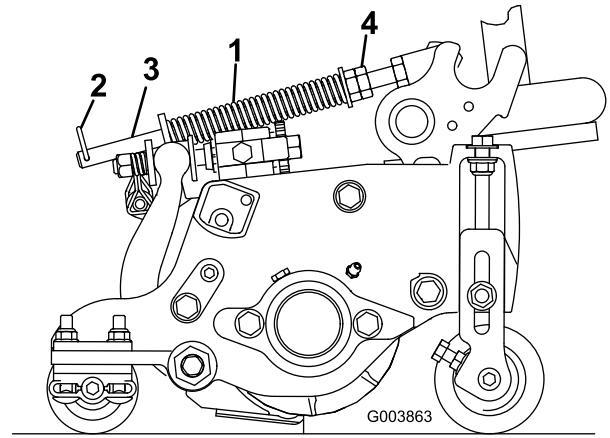

Figure 13
2. Tighten the hex nuts on the front end of the spring rod until the compressed length of the spring is 5 inches (12.7 cm) on Reelmaster 5210 & 5410, 5 inch cutting units or 6.25 inches (15.9 cm) on Reelmaster 5510 & 5610, 7 inch cutting units (Figure 13).
The turf compensation spring (Figure 13) transfers weight from the front to the rear roller. (This helps to reduce a wave pattern in the turf, also known as marcelling or bobbing.)
1. Make sure the hairpin cotter is installed in the rear hole in the spring rod (Figure 13).